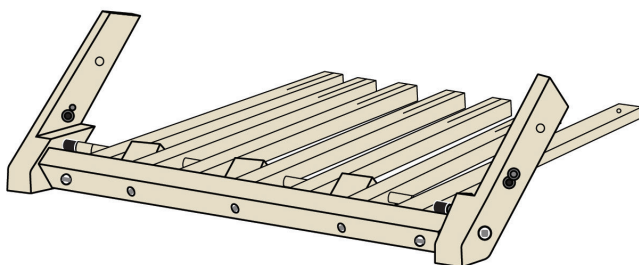

FIGURE 10: INSIDE BLOCKS INSTALLED ON TREADLE ASSEMBLY
18. Repeat steps 16 and 17 on the other end of the treadle assembly, using the LI height extender block. The treadle assembly and inside height extender blocks should now look like Figure 10.